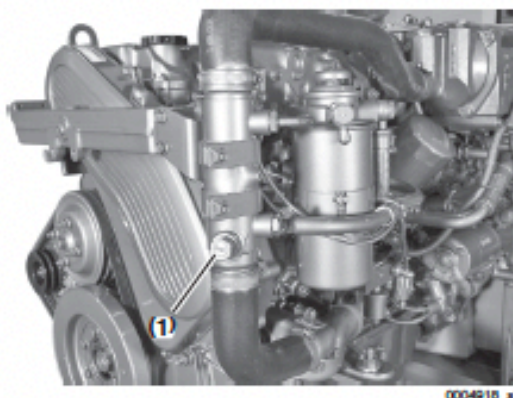

Figure 4-8
- Fuel Cooler (Figure 4-8, (1))